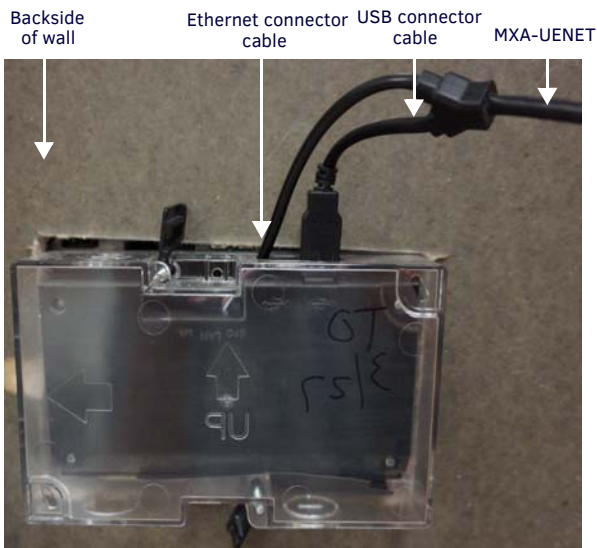

FIG. 4 INSTALLATION OF THE MXA-UENET INTO AN MXD-700 BACK BOX
2. Thread the MXA-UENET through the knockout hole, and install the back box into the wall or mounting surface (FIG. 4).